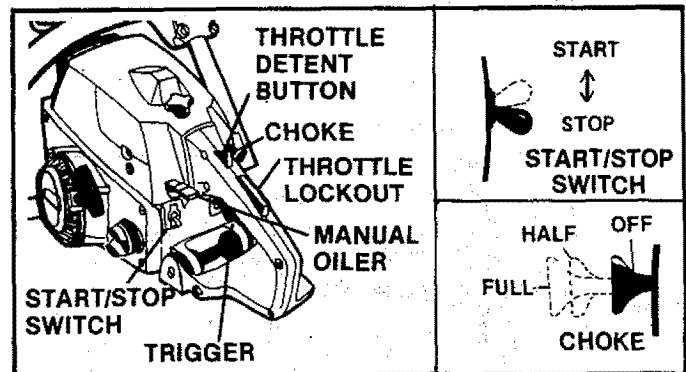

Figure 13
Understanding the control devices on your saw is an important part of learning how to properly and safely operate the unit. Figure 13.
- f. Stop engine by moving the ignition switch to the "STOP" position (Figure 13).
* Allow engine to warm-up thoroughly on half-choke, then move choke to the "Off" position. Do not cut with the choke at the "On" or "Half" position. Figure 13.